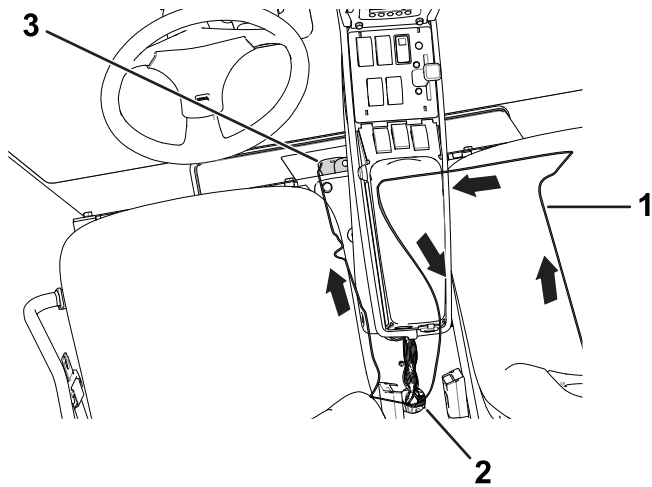
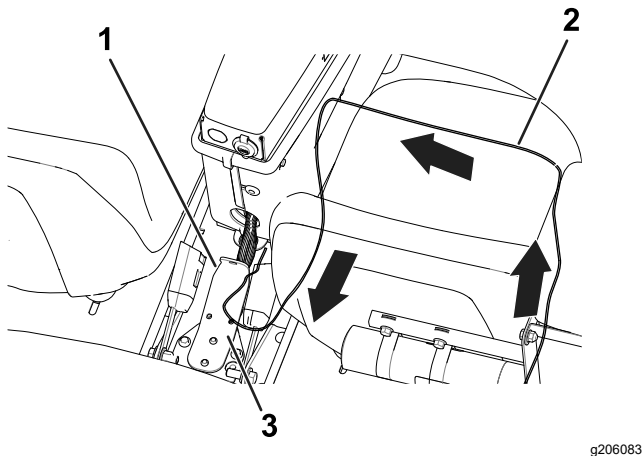

Figure 8
Figure 9
Route the tube along the existing wire harness through the console opening (Figure 9).
Route the tube along the existing wire harness through the console opening and to the front of the seat base (Figure 8).
4. Secure the tubes to the existing wire harness with cable ties (Figure 9 or Figure 8).